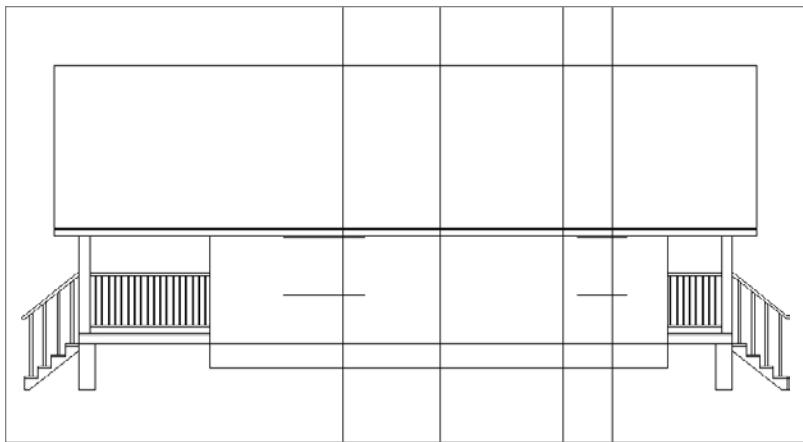

FIGURE 10.40 Construction lines drawn from the floor plan windows to the elevation view
6. Using the Construction Line tool found on the Draw panel of the Home tab, create extension lines from the jams of the two windows in the floor plan. Once these are drawn, your elevation will look like Figure 10.40.